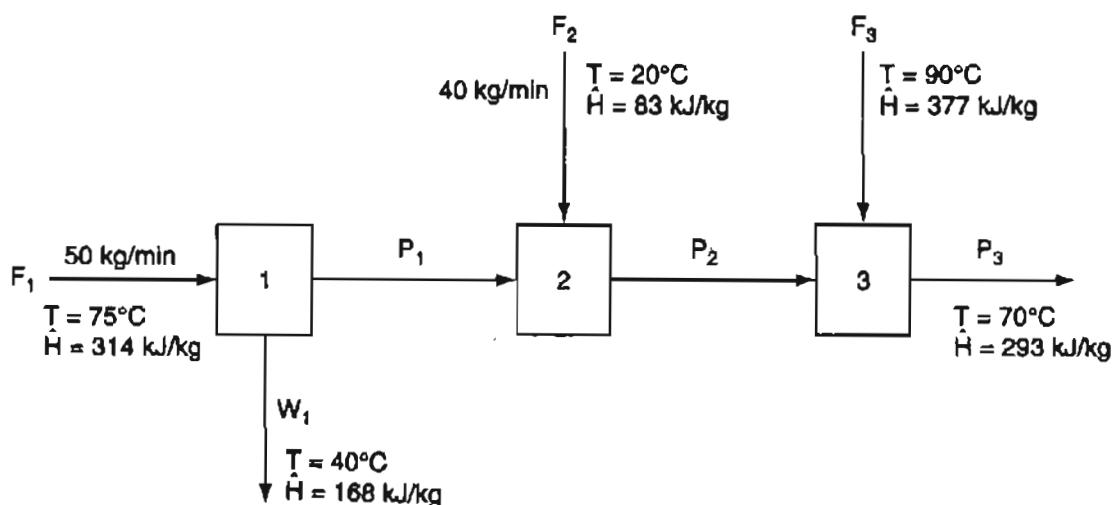

Figure P24.3
- *24.3 How many independent equations can you write for the water flows shown in Figure P24.3?